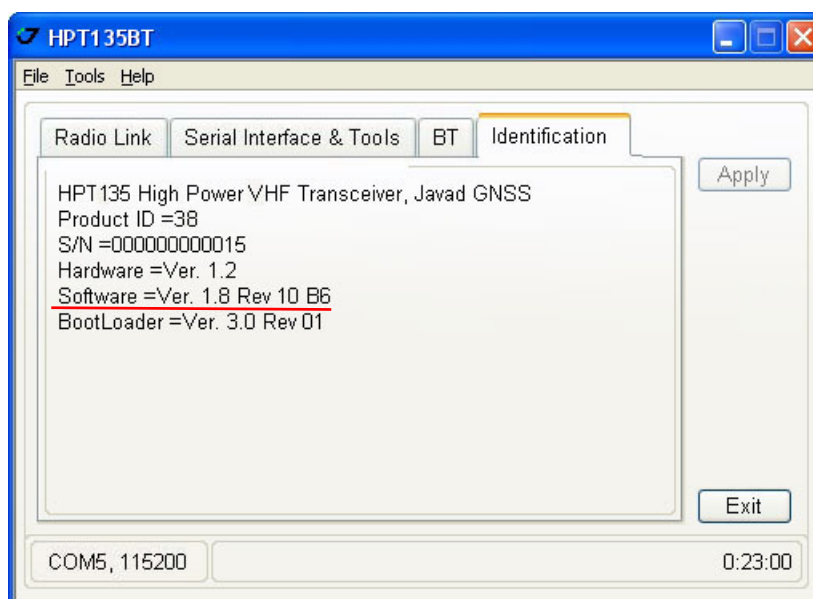

Figure 8. Identification tab
3. Click on *Identification* tab (Figure 8).